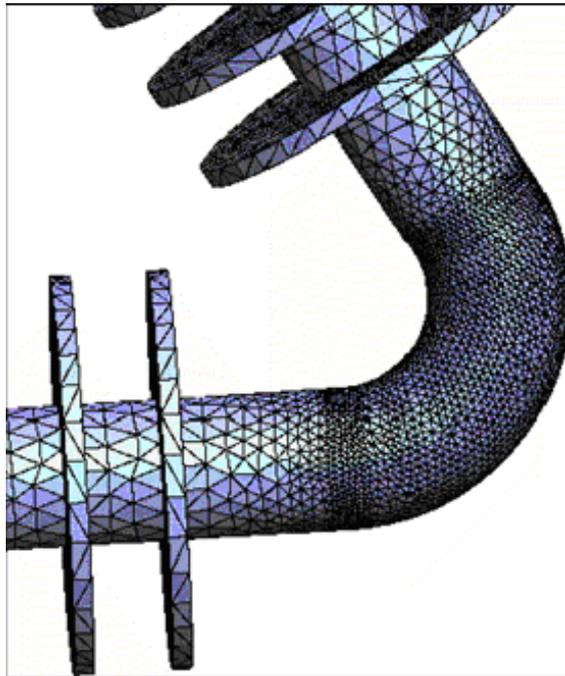

Figure 32. The mesh with a concentration of elements on the surfaces of the elbow
- 6 . Choose **Mesh->View Mesh Boundary** to see only the contour of the meshed volumes but not the interiors (Figure 32).